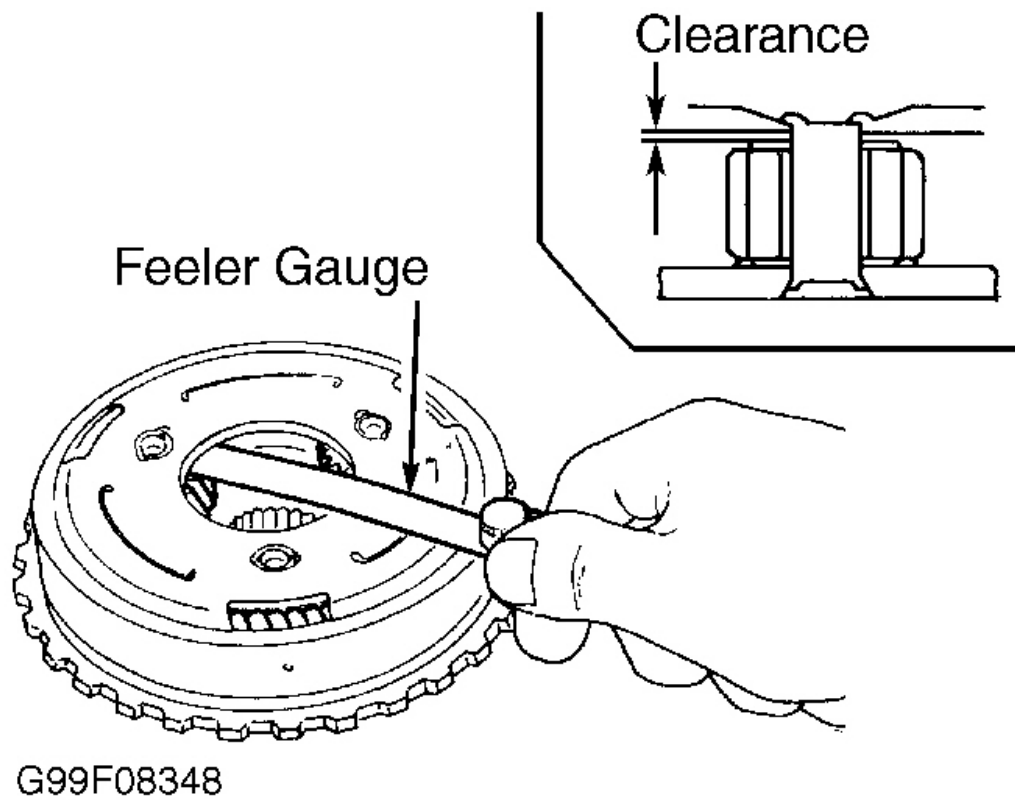

Fig. 16: Measuring Pinion Gear Clearance (Typical)
12. Using a feeler gauge, check clearance between pinion washer and appropriate planetary carrier. See **Fig. 16**. Clearance between pinion washer and planetary carrier should be .008-.028" (.20-.70 mm), with service limit of .031" (.80 mm). If clearance is not as specified, replace appropriate planetary carrier.